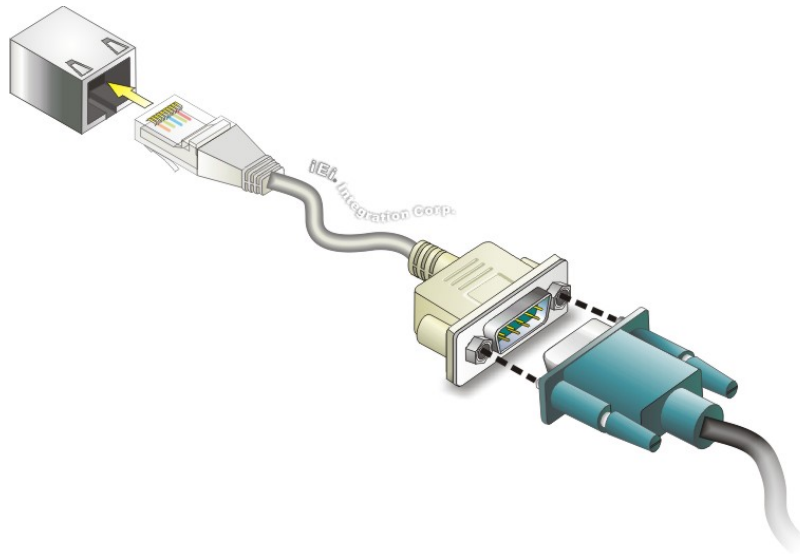

Figure 3-20: RJ-45 RS-232 Serial Device Connection
Step 2: **Insert the RJ-45 connector.** Insert the RJ-45 connector on the RJ-45 to DB-9 COM port cable to one of the RJ-45 RS-232 connectors on the TANK-870AI series. See **Figure 3-20**.